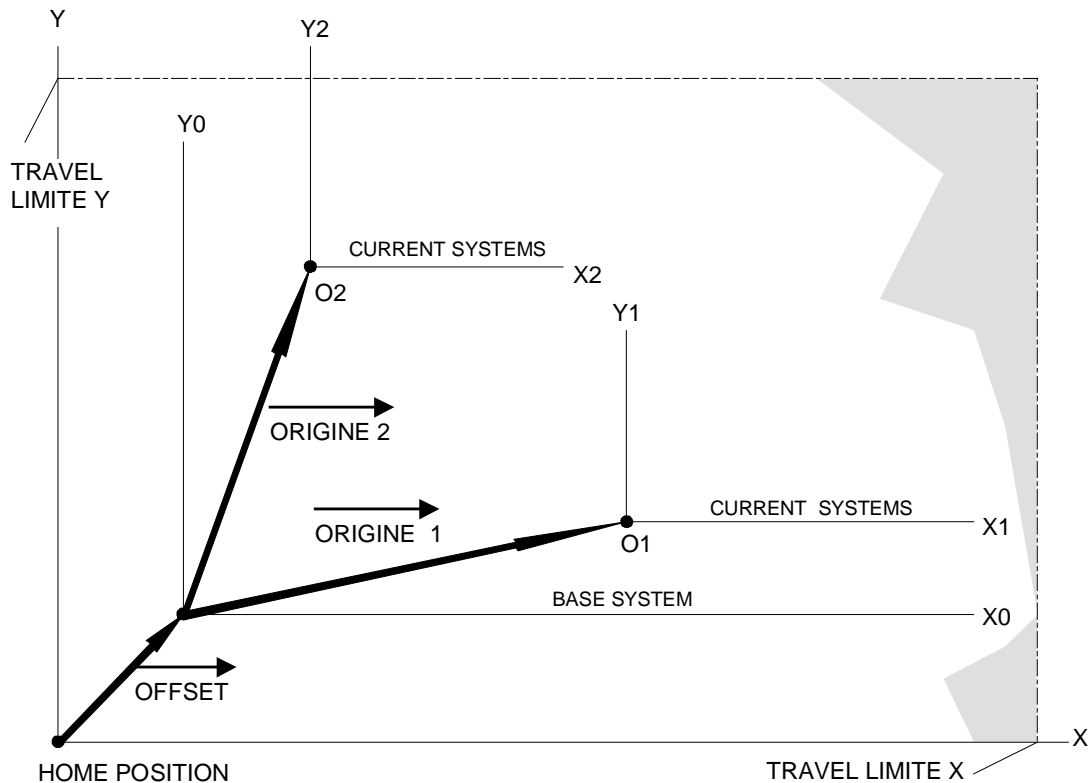

Figure 3-2 : The UNIPROG coordinate Systems
- The ORIGINE vector translates the Base into the **Current Coordinate System**, see Figure 3-2.